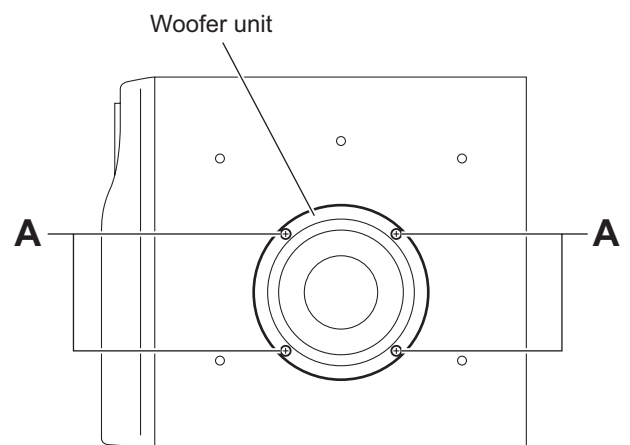
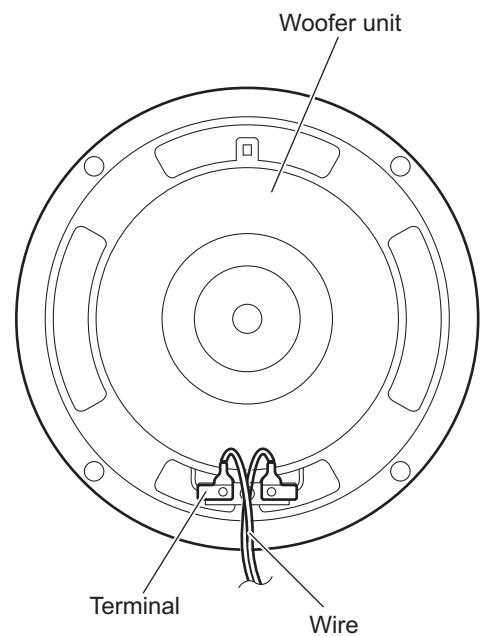

Fig.2
Fig.3
(See Figs.2 and 3)
- (1) Remove the four screws **A** attaching the woofer unit. (See Fig.2.)
- (2) Take out the woofer unit from the subwoofer main body.
- (3) From the back side of the woofer unit, disconnect the wire from the terminal. (See Fig.3.)